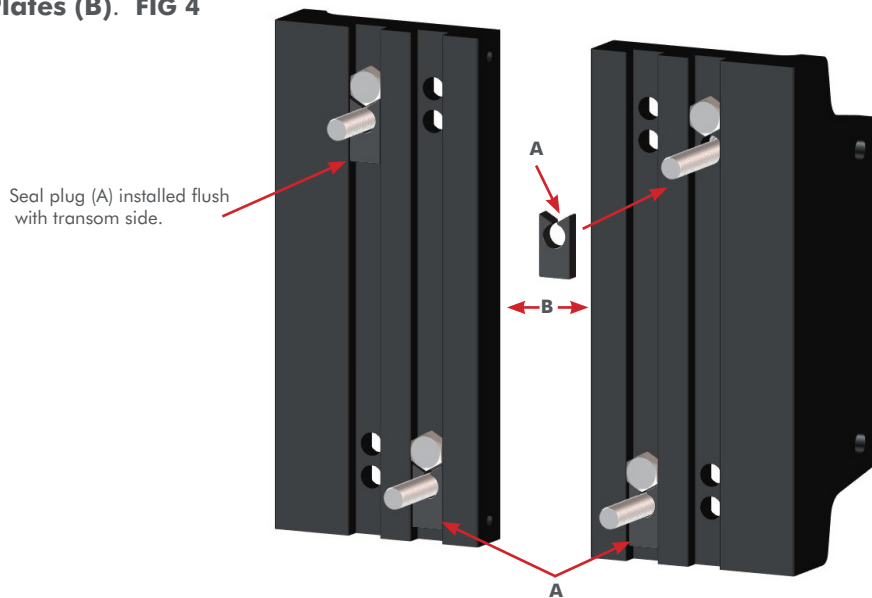

Figure 4
STEP 4: Install the four **Seal Plugs (A)** onto each **transom bolt** being used with the **M to S Adapter Plates (B)**. **FIG 4**